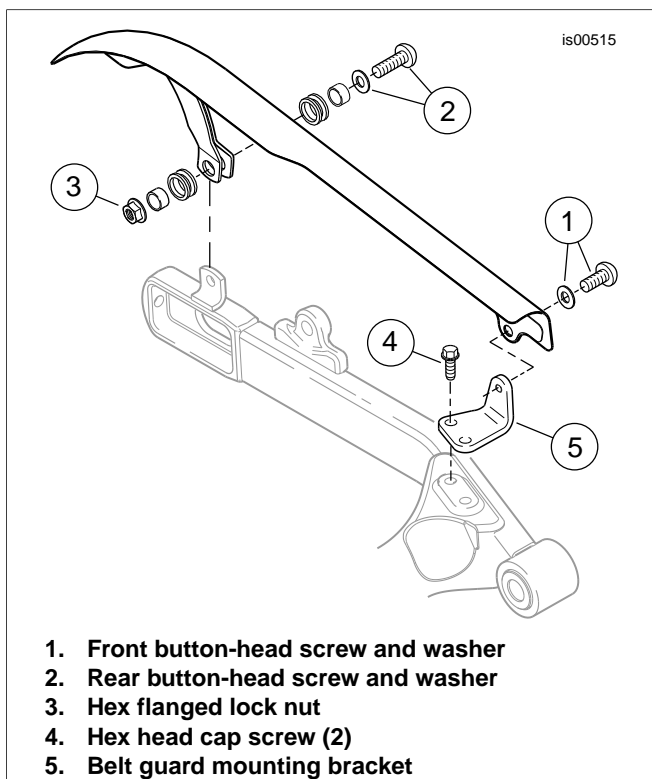

Figure 3. Upper Belt Guard Removal
- See Figure 3. Remove and retain the front (1) and rear (2, 3) upper belt guard fasteners, and carefully remove the upper belt guard from the vehicle.